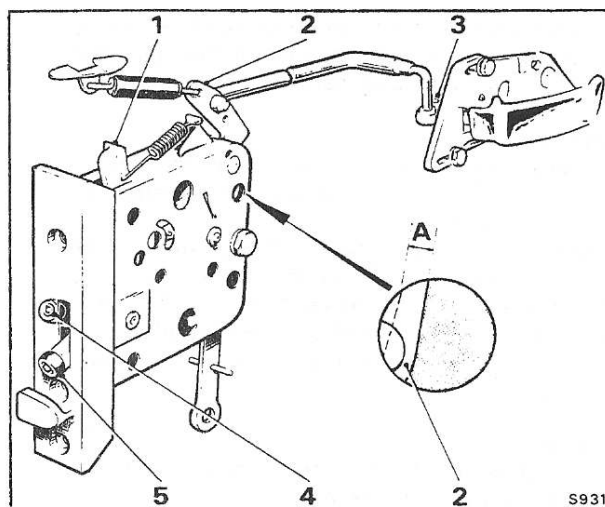

Fig. S13 Interior door handle adjustment (Silver Shadow II, Bentley T2 and Silver Wraith II)
6. Check the operation of the interior door handle(s) following the same procedure as described in Operations 4 and 5 (see Fig. S13).
Fit the door lock and control rods noting that there are two bushes fitted into the interior door handle mounting bracket (see Fig. S13); fit the remote control rod to the rearmost bush.
This travel can be checked by looking through the door panel aperture and checking the movement of the lock remote control lever. This lever is controlled by, and travels exactly the same distance as, the contactor lever (see Fig. S13, inset). This represents approximately 2° of handle travel.